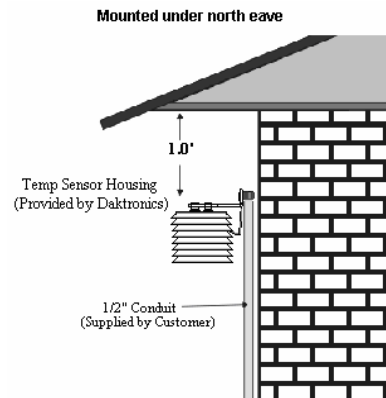

Figure 4: Located on the North Eave
- An ideal location is under a north eave or on a northern exposure away from direct sunlight (**Figure 4**).